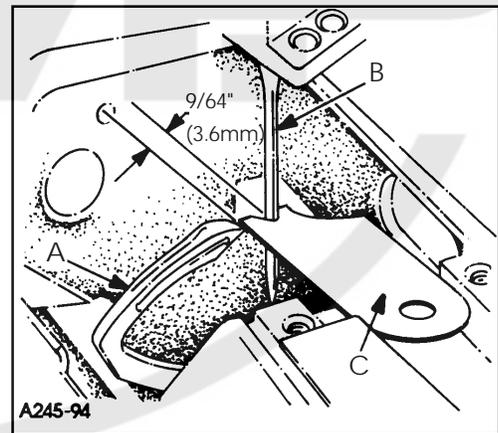
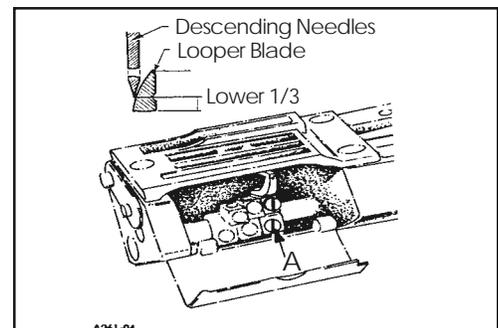

FIG. 6
FIG. 7
Insert a new set of needles, type and size specified. Always adjust the looper (A, Fig. 6) for the left needle first. Set the looper so that the distance from the center of the needle (B) to the point of the looper (A) is $\frac{9}{64}$ " (3.6mm) when the looper is at its farthest position to the left. Looper gauge (C) No. 21225-9/64 can be used advantageously in making this adjustment. If adjustment is required, loosen screw (A, Fig. 7) in looper holder, permitting movement in either direction to attain the $\frac{9}{64}$ " (3.6mm) dimension as shown in Fig. 6. Retighten screw (A, Fig. 7). Repeat for other needles and loopers.
Rotate handwheel in operating direction to assure that the looper point passes to the rear of the needle to touch but not to deflect the needle. This adjustment can be made by loosening screw (A, Fig. 7) in looper holder. Looper holder can be moved front to back to attain looper to needle setting. Always check the $\frac{9}{64}$ " (3.6mm) looper gauge setting after setting the looper to the back of the needle, and conversely, always check the setting of the looper to the back of the needle after setting the $\frac{9}{64}$ " (3.6mm) looper gauge.
The amount of looper avoid has been set at the factory to .110" (2.8mm). If it becomes necessary to adjust the amount of avoid it is recommended as a starting point, to have the points of the descending needles contact the back of the lower 1/3 of the back of the looper blade. (See Fig. 7).